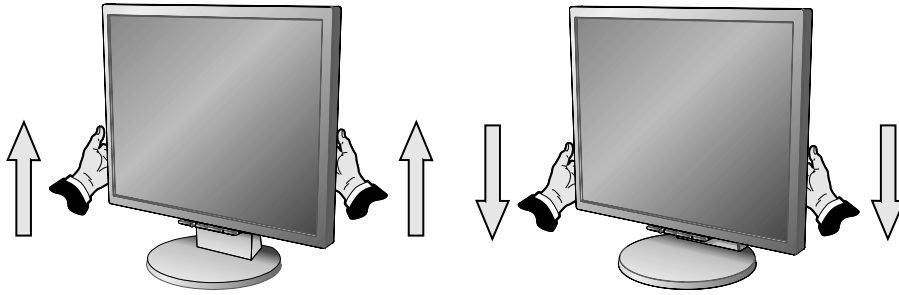

**Figure E.1**
10. Connect the power cord to the power outlet (**Figure E.1**).
11. The vacation switch on the back side of the monitor must be turned on (**Figure E.1**). Turn on the monitor with the front power button and the computer.